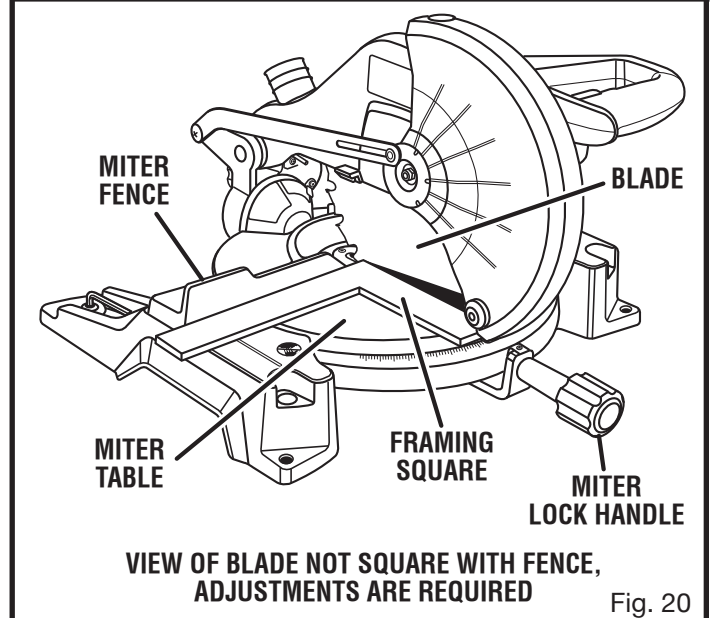

Fig. 20
- If the front or back edge of the saw blade angles away from the square as shown in figures 20 and 21, adjustments are needed.